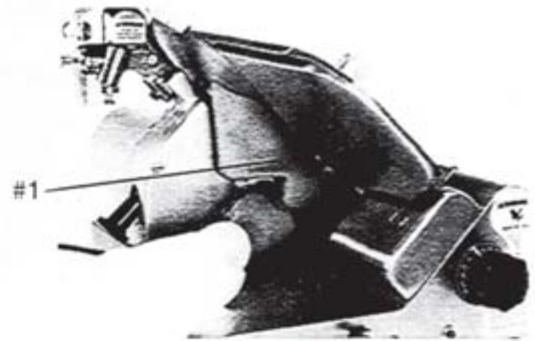

Figure 14-1
2. **SLICE DEFLECTOR:** The slice deflector (#1) is mounted on a retaining guide pin. To remove the slice deflector, pull completely forward and remove deflector (Fig. 14-1)